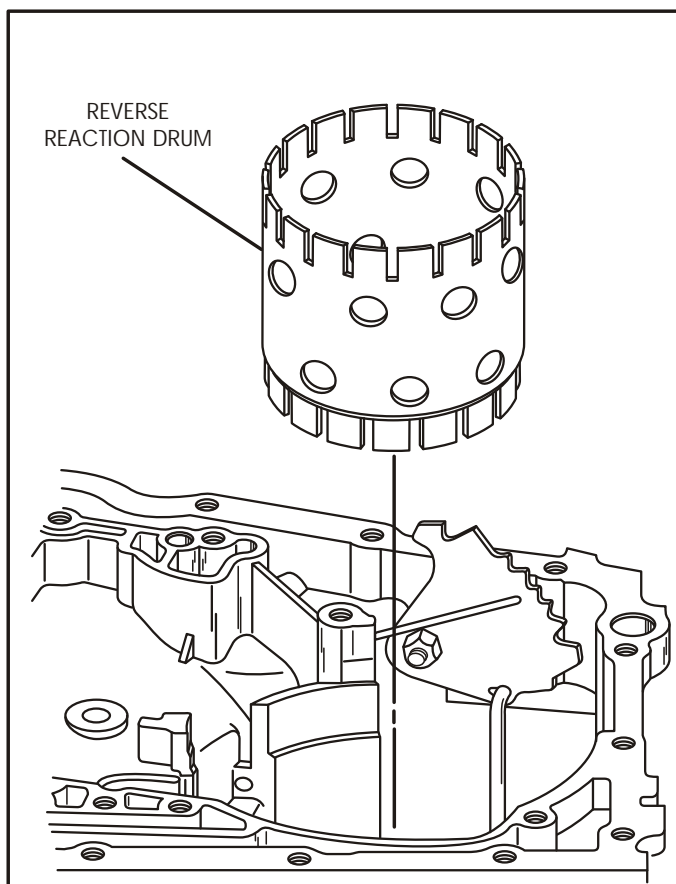

Figure 161
44. Install the reverse reaction drum into the case in the direction shown in Figure 161, engaging the drum onto the input carrier splines.